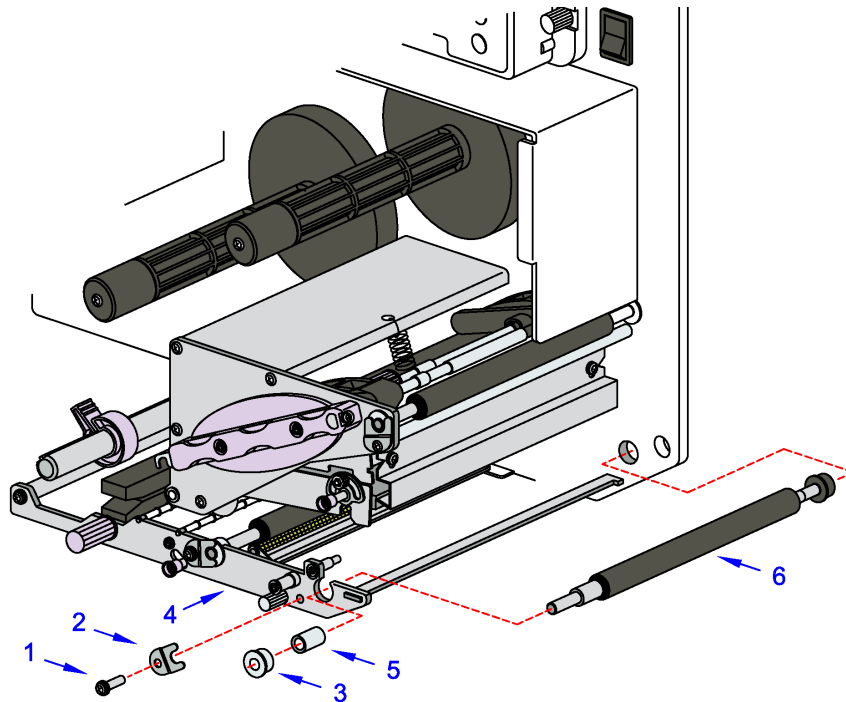

Figure 6-3, Roller Replacement
2. Loosen screw (1, Figure 6-3) sufficiently to rotate bearing clamp (2) from bearing (3).